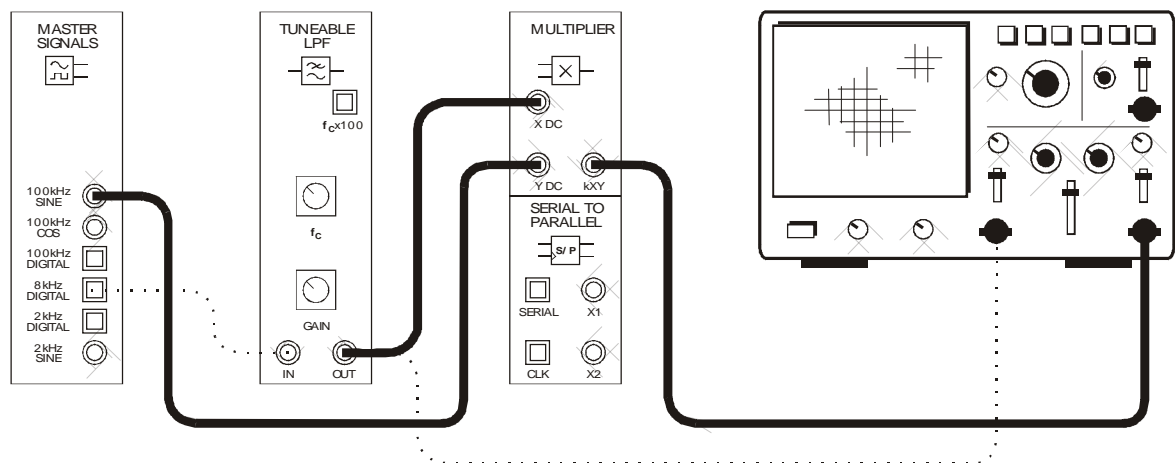

Figure 5
9. Modify the set-up as shown in Figure 5 below.